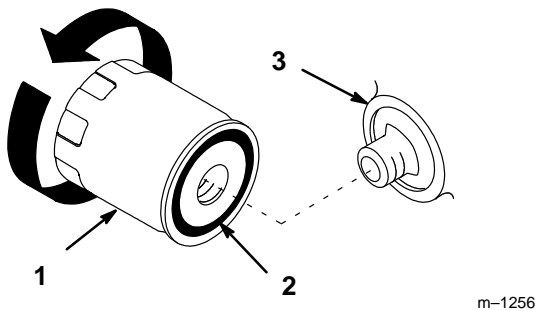

Figure 28
2. Remove the old filter and wipe the filter adapter (Fig. 28) gasket surface.
4. Apply a thin coat of new oil to the rubber gasket on the replacement filter (Fig. 28).
5. Install the replacement oil filter to the filter adapter. Turn the oil filter clockwise until the rubber gasket contacts the filter adapter, then tighten the filter an additional 1/2 turn (Fig. 28).